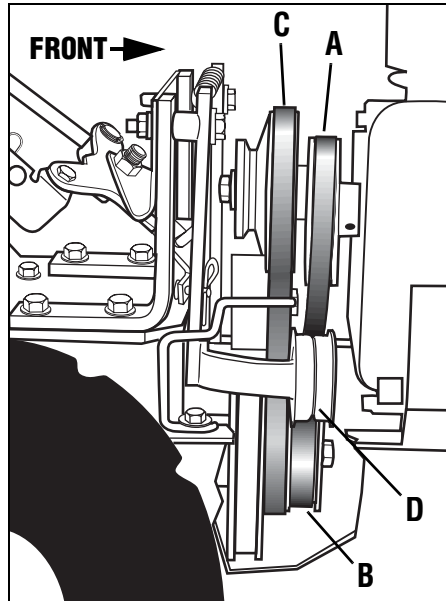

Figure 5-18: Removing and installing reverse belt.
3. Slip the reverse belt off the engine reverse pulley (A, Figure 5-18). If necessary, work the belt off the pulley with your left hand while pulling the engine recoil starter rope with your right hand.
4. Push the upper half of the reverse belt downward to create slack in the belt. Then reach underneath the transmission and slip the belt off the front of the transmission pulley (B, Figure 5-18).
5. Pull the belt up and past the engine reverse pulley (A, Figure 5-18).
1. Slip the reverse belt down between the engine reverse pulley (A, Figure 5-18) and the engine forward drive pulley (C).
2. Loop the bottom half of the belt over the front of the transmission pulley (B, Figure 5-18) and seat the belt in the front groove of the pulley.
3. Place the belt to the inside of the reverse idler pulley (D, Figure 5-18) and the reverse belt guide (V, Figure 5-12). Then slip the upper end into the groove of the engine reverse pulley (A, Figure 5-18).